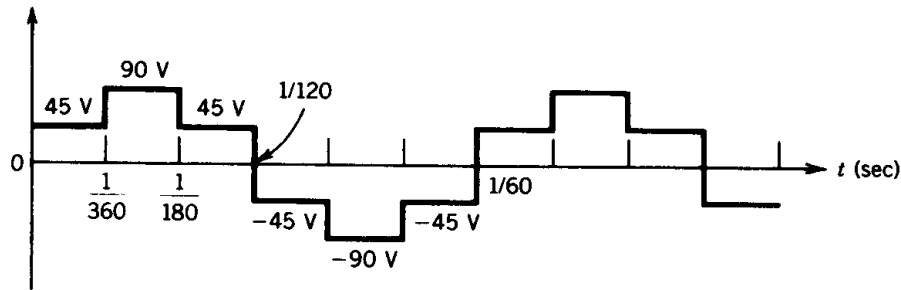

FIGURE P1.22
- 1.22 A six-step voltage of frequency 60 Hz, as shown in Fig. P1.22, is applied on a coil wound on a magnetic core. The coil has 500 turns. Find the maximum value of the flux and sketch the waveforms of voltage and flux as a function of time.